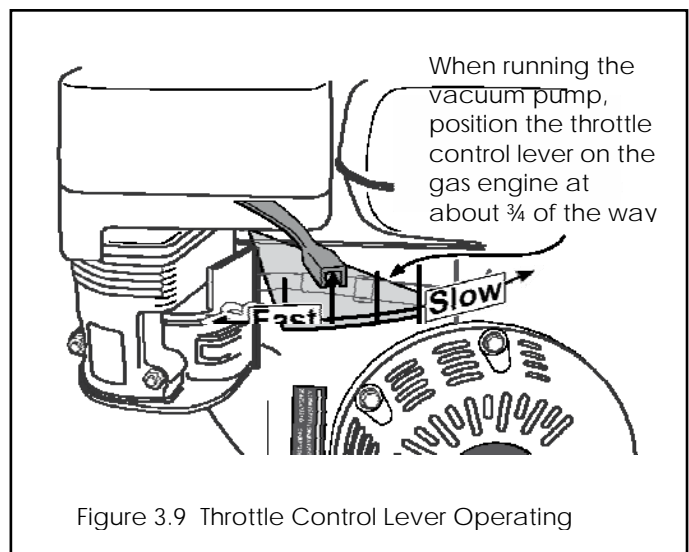

Figure 3.9 Throttle Control Lever Operating
- Move the throttle control lever on the gas engine to about 3/4 of the way toward the FAST position (Figure 3.9). This will provide the recommended 1250 to 1300 rpm at the vacuum pump.
3. Move the throttle control lever on the gas engine to about $\frac{3}{4}$ of the way toward the FAST position (Figure 3.9, page 18)